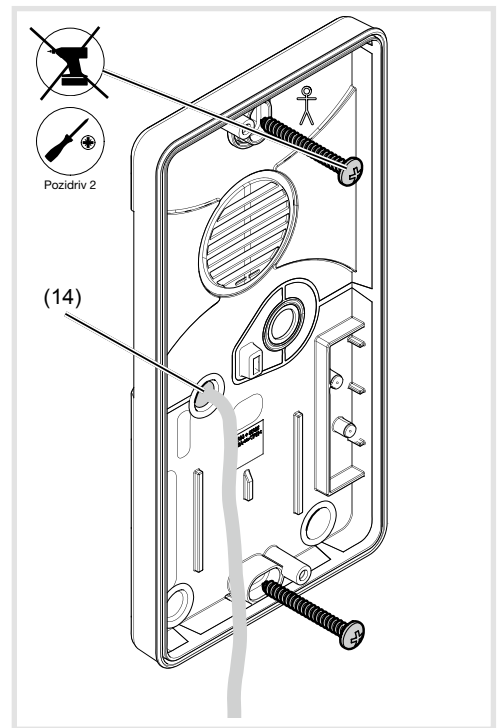

Figure 6: Base fixing
- Using a pointy object (tip, screw, rigid copper wire, etc.), make a hole in the membrane (14) big enough for the cable to go through (figure 6).
- Position the fixing base on the wall in order to determine where the two fixing points should be (figure 6).